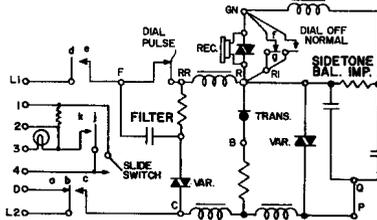

FIGURE 1 DIAGRAMS 701--(L)30- TELEPHONE
- 2.03 When a ringer is required, any ringer including the specially designed ringers for this series of telephones may be used. See Figure 1 for ringer wiring diagram.